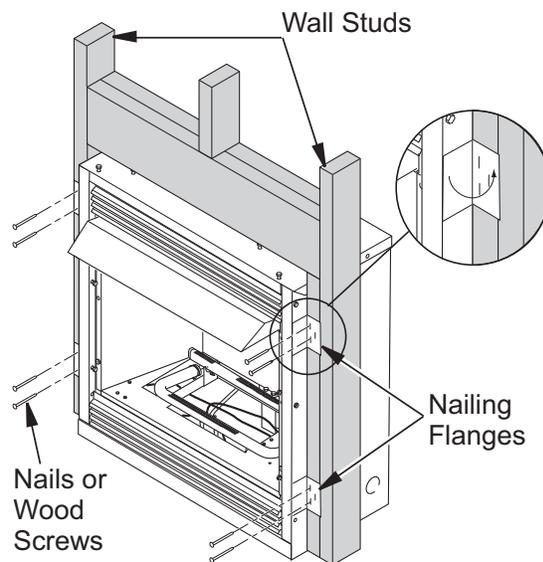

Figure 9 - Attaching Fireplace to Wall Studs
Built-in installation of this fireplace involves installing fireplace into a framed-in enclosure. This makes the front of fireplace flush with wall. An optional trim kit accessory is available (see *Accessories, Page 30*). Trim will extend past sides of fireplace approximately 1/2". This will cover the rough edges of the wall opening. If installing a built-in mantel above the fireplace, you must follow the clearances shown in *Figure 9, Page 11*. Follow the instructions below to install the fireplace in this manner.
- Bend four nailing flanges on outer casing with pliers (see **Figure 9**).